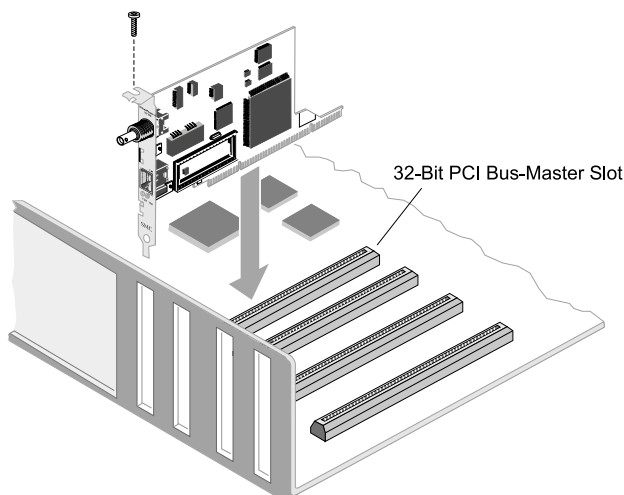

Figure 1-3. Inserting the Network Card
5. For the models that support a Wake-On-LAN connector, connect one end of the 3-pin WOL cable to connector J1 on the card, and the other end to the “5V Standby” connector on the computer’s motherboard, as shown in Figure 1-3. (Refer to your computer’s installation manual to locate the 5V Standby connector.)